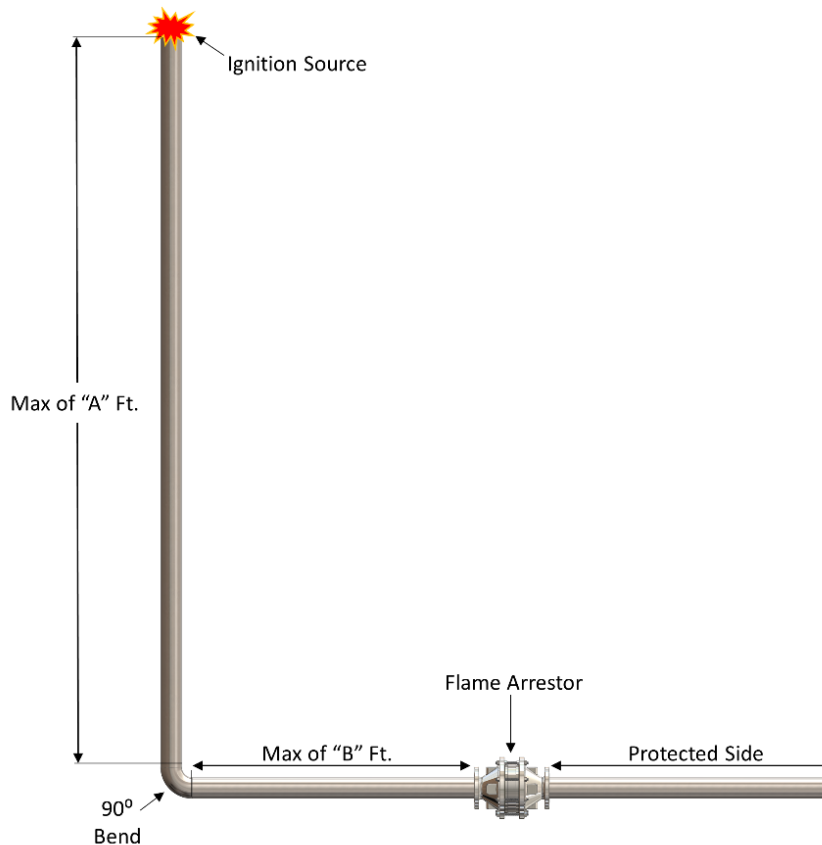

Figure 2: Configuration with Bend, Allowable Installation Configuration
****See below Figure 2, Configuration with bend diagram:**